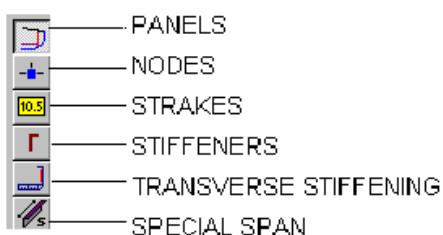

Figure 9: MARSIN TOOLBAR
- click on the *panel* button (Figure 9),